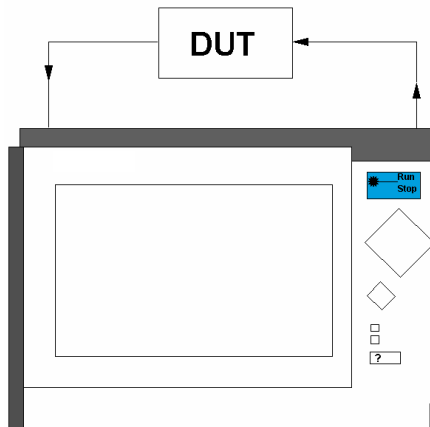

Figure 70 Fiber setups for performing an Insertion Loss measurement
- 5 Attach output connectors to the module and the power meter submodule. Connect the module and submodule with a fiber (Figure 70, first picture).
Insert DUT **10** Insert the Device Under Test in the link between the Source and the Power Meter (Figure 70, second picture).